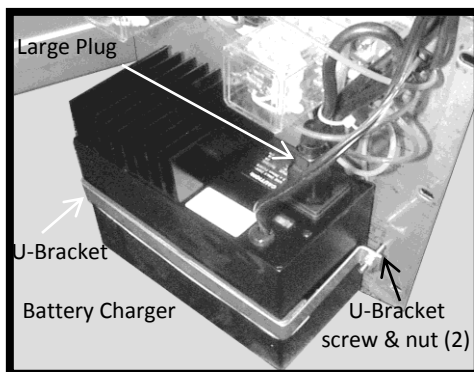

Figure 19: Battery Charger Mounting
5. Remove the large plug from the battery charger (Figure 19).
9. With a Phillips screwdriver and a 11/32 in. wrench remove the screws/nuts from both sides of the U bracket (Figure 19) and free the bracket and charger from the cover.
9. Plug the large plug into the battery charger (Figure 19).
6. The other end of the power cord is the large female plug on the battery charger (Figures 19 and 22). Remove this plug from the battery charger.